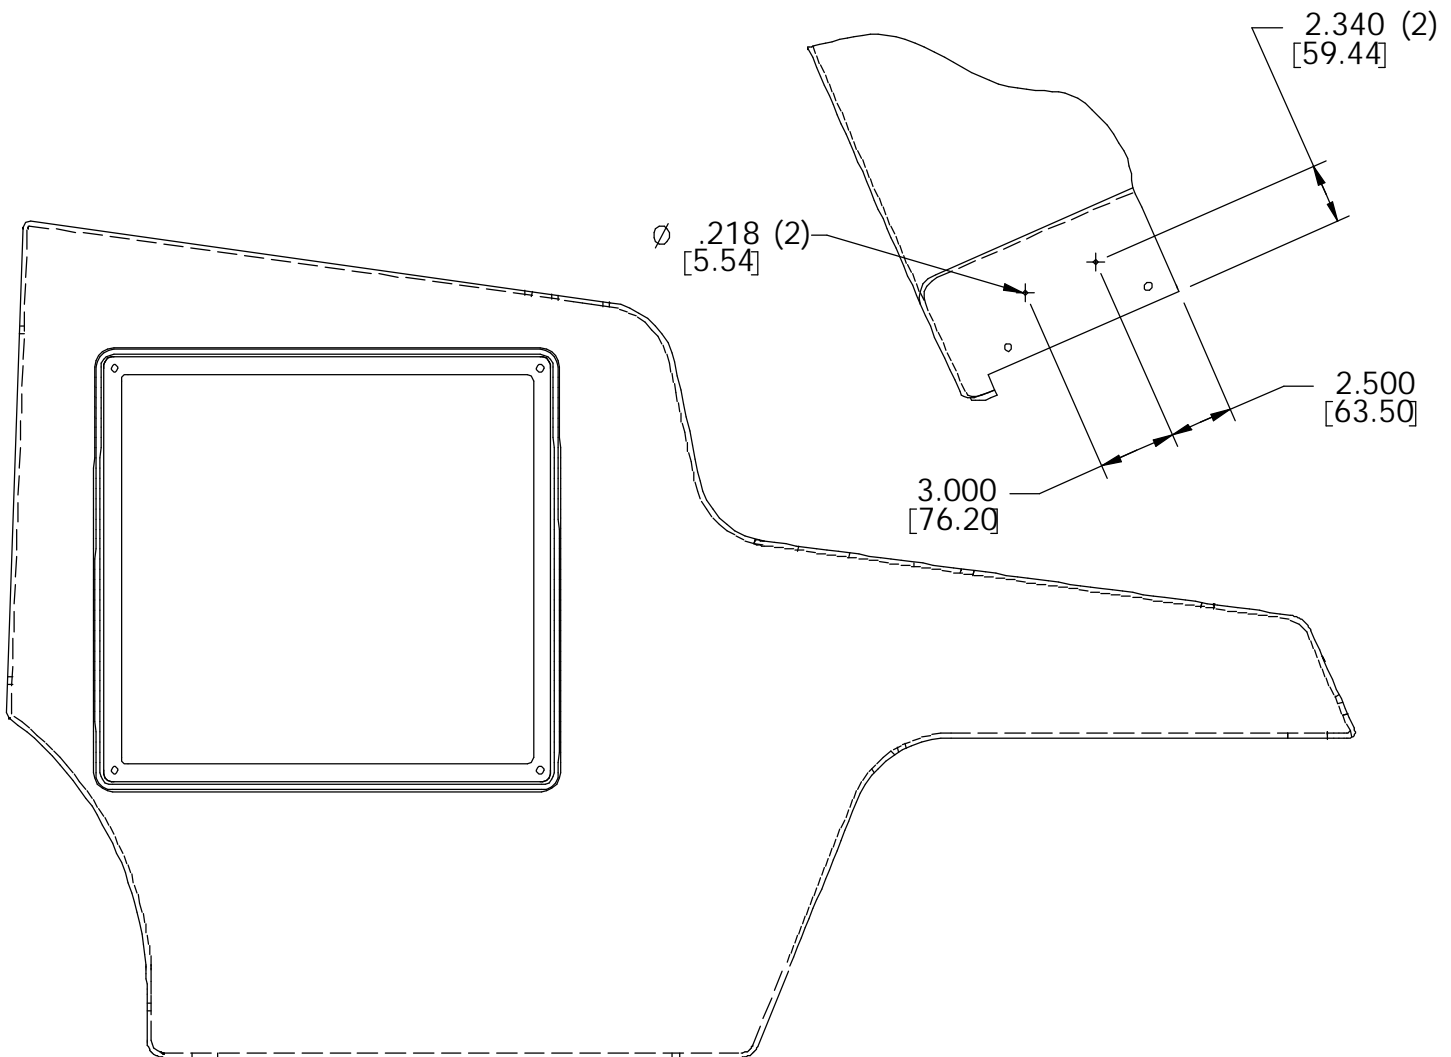

FIG. 1 - Panel, Right Hand Side
(Refer to FIG. 1 and 2)
1. Use the dimensions in Fig. 1 and 2 to mark and drill the mount holes for the front lights (1) on the left and right machine panels. (Refer to FIG. 1 and 2)